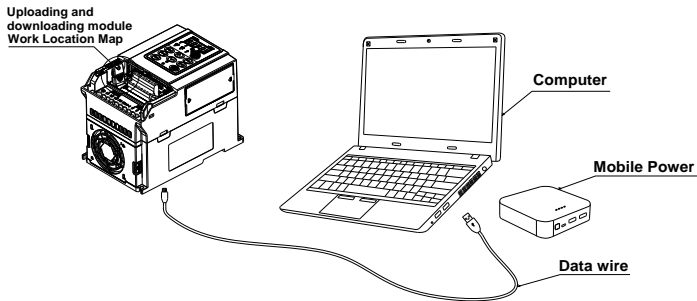

**Figure B-2 Uploading and downloading module installation**
Step 1: Installing the uploading and downloading module to the inverter control board UP / DOWNLOAD position (As shown in figure B-2)
Step 2: Power up the upload and download module via USB (As shown in figure B-2(b)).